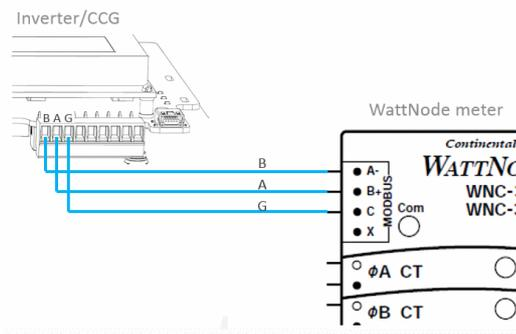

Figure 13: RS485 connection
- The wiring between the black 4-pin terminal block on the meter and the RS485 terminal block on the communication board is correct (See Figure 13).